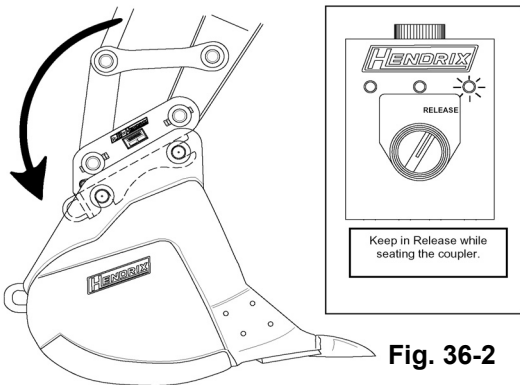

Fig. 36-2
- Seat the coupler onto the attachment's link pin by curling the coupler in toward the machine (extend the machine's bucket cylinder as shown in Fig. 36-2).